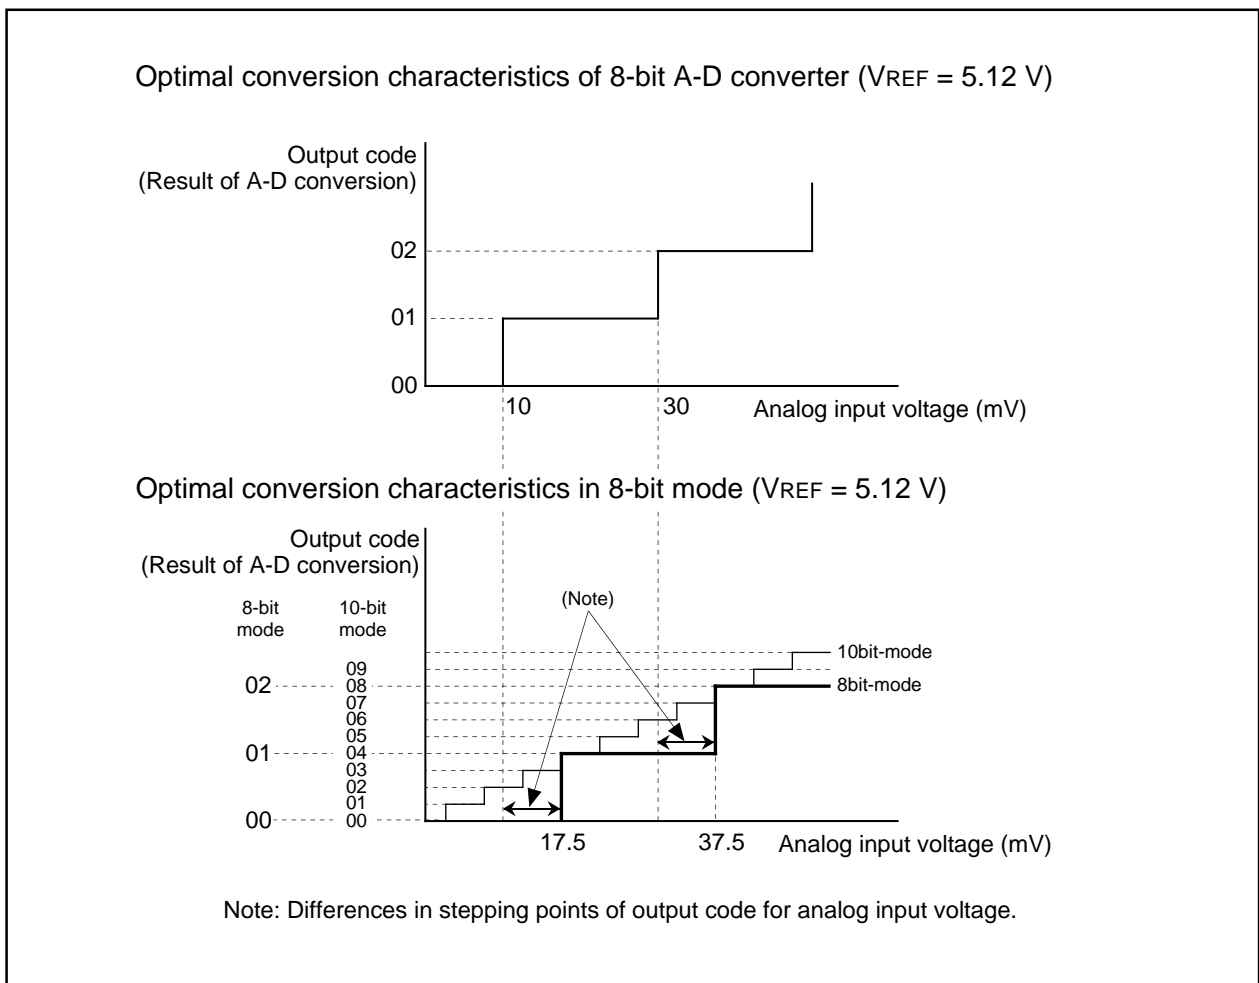

Figure 2. The level conversion characteristics of 8-bit mode and 8-bit A-D converter
(1) In 8-bit mode, 8 higher-order bits of the 10-bit successive comparison register becomes A-D conversion result. Hence, if compared to a result obtained by using an 8-bit A-D converter, the voltage compared is different by $3 V_{REF}/2048$ (see what are underscored in Table 3), and differences in stepping points of output codes occur as shown in Figure 2.